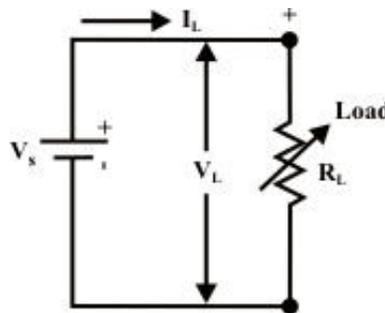

Fig 13: Ideal DC voltage source
- An ideal voltage source, which is represented by a model in Fig. 13, is a device that produces a constant voltage across its terminals ($V = E$) no matter what current is drawn from it (terminal voltage is independent of load (resistance) connected across the terminals)
For the circuit shown in Fig 13, the upper terminal of load is marked plus (+) and its lower terminal is marked minus (-). This indicates that electrical potential of upper terminal is V_L volts higher than that of lower terminal. The current flowing through the load R_L is given by the expression $V_s = V_L = I_L R_L$ and we